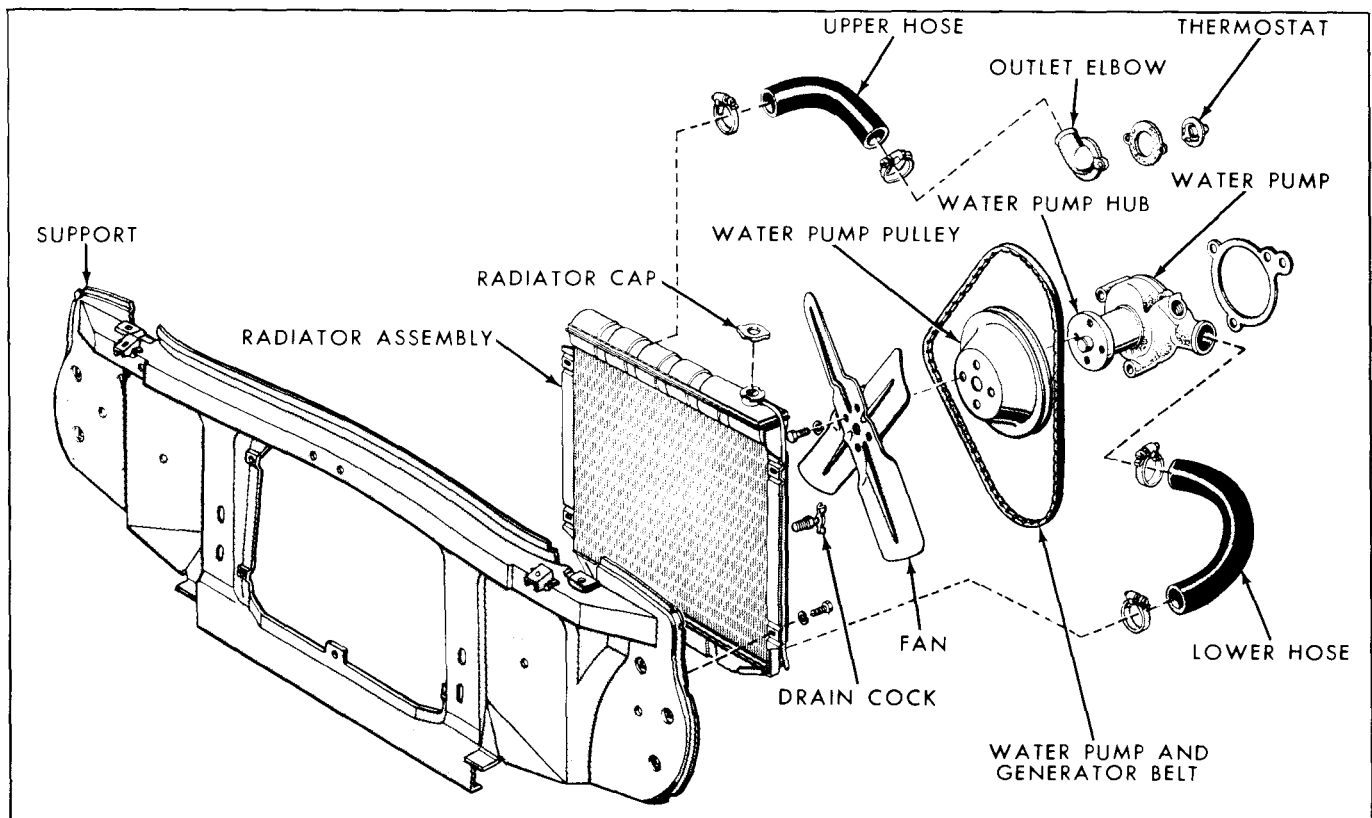

Fig. 8-1—Radiator and Related Parts—(60C-6001)
2. Coat the recessed bore in the coolant outlet elbow with water pump grease for thermostat adhesion. Then replace the thermostat in the bore. See figure 8-1.